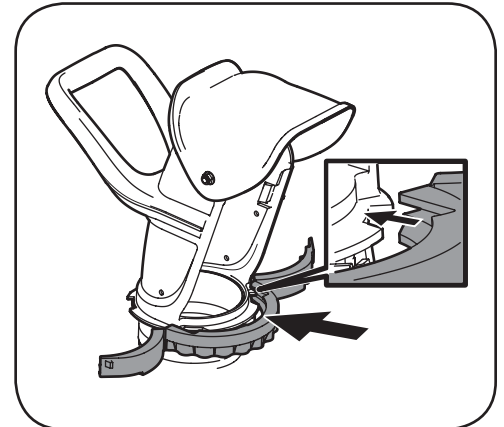

Figure 3-6
6. With the discharge chute positioned to the right as shown, install the chute band by lining up the notches in the front with the band, and making certain to fit the discharge chute inside the channel of the chute band, as detailed in the inset of Figure 3-6.